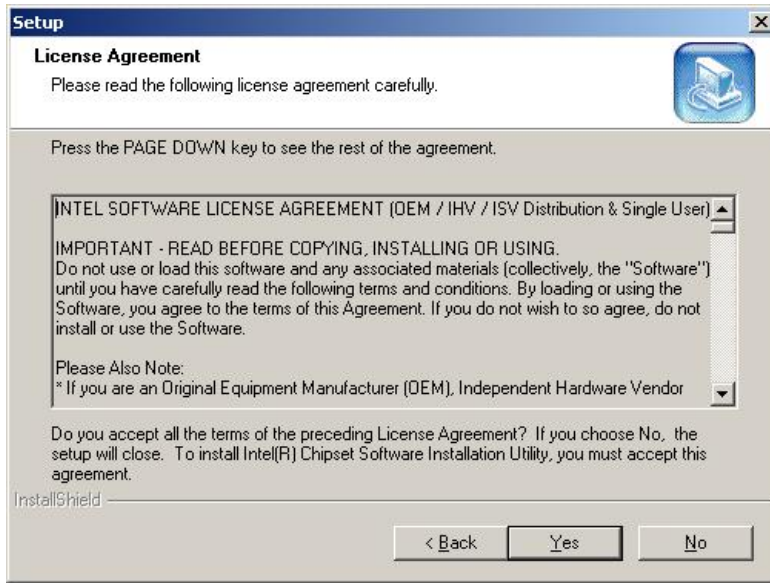

Figure 6-3: License Agreement
Step 4: Click “NEXT” and the license agreement shown in Figure 6-3 appears.